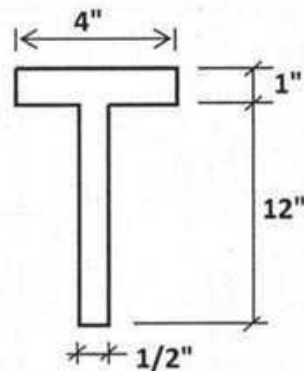

Fig. 5
5. Compute the yield moment and plastic moment capacities and shape factor for major axis bending of the section shown in Fig. 5. Given: $F_y = 42$ ksi. 8 1/3